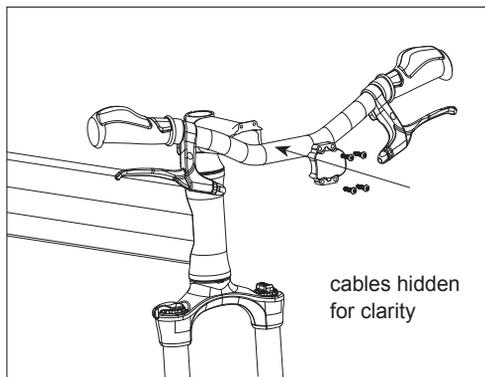

Fig. 13: Replace and center handlebars.
2. Place and center handlebars within the stem (some have centerline marks), and replace screws (Fig. 13).